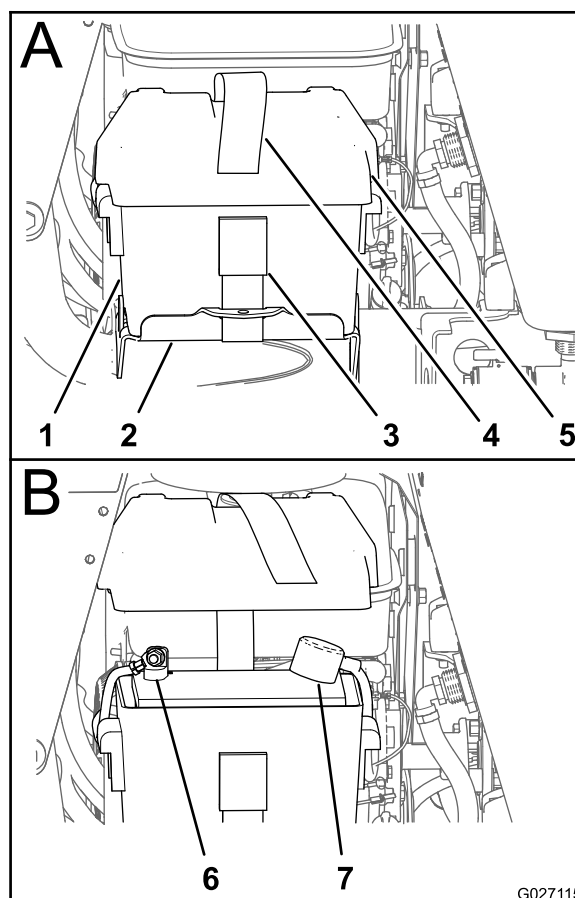

Figure 74
2. Remove the free end of the battery strap from the buckle and remove the battery cover from the battery box (Figure 74).
- If the positive cable is also disconnected, connect the **positive (red) cable** to the positive-battery terminal and slip terminal cover over the positive terminal (Figure 74).
- Align the battery cover to the battery box and secure the cover and box to the battery tray with the battery strap (Figure 74).
2. Remove the battery cover (Figure 74); refer to step 2 of Checking the Battery Charge \(page 59\).
6. Align the battery cover to the battery box and secure the cover and box to the battery tray with the battery strap (Figure 74)